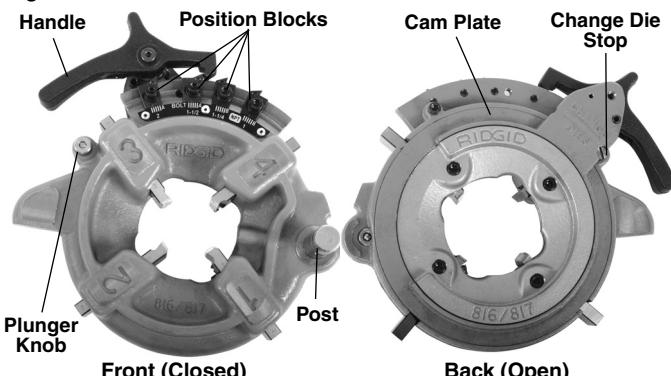

Figure 1 – Semi-Automatic Die Head
2. Depress handle so that cam plate rests against the change die stop (Figure 1). The cam plate/handle assembly is spring loaded and will move when depressed.